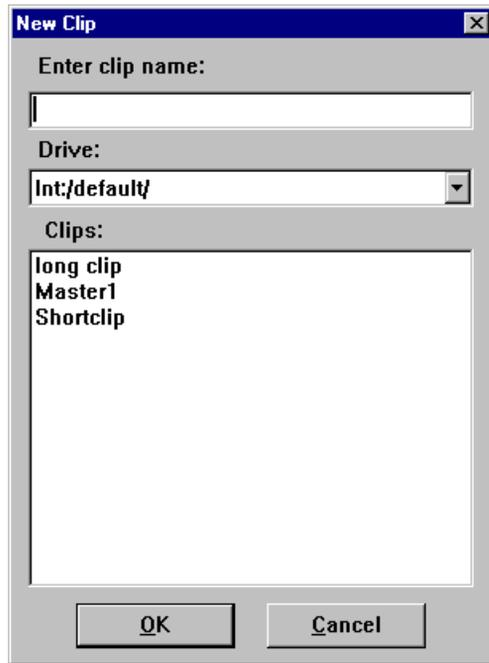

Figure 91. New Clip dialog box
2. Select **VideoClip | New Clip** to open the New Clip dialog box (Figure 91).